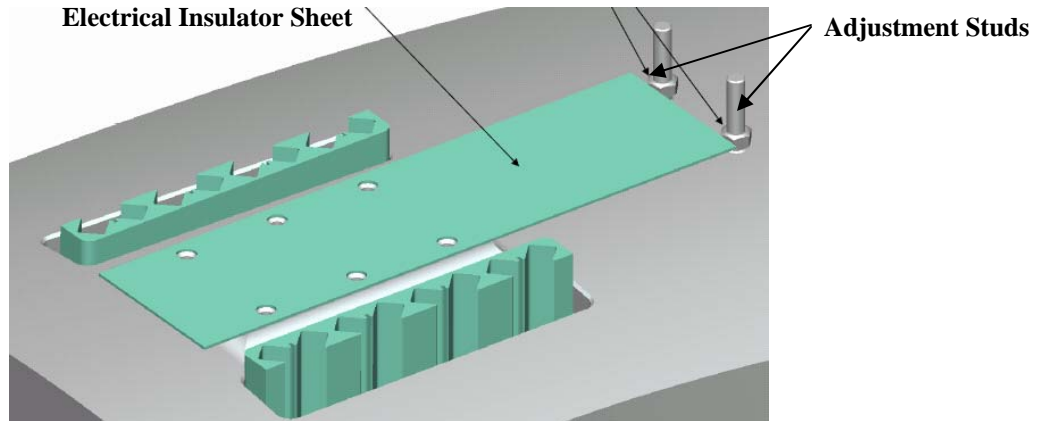

Figure 18- Electrical Insulator and Adjustment Studs
6.19.1.7 Using the G-11CR mounting base for positioning, TIG weld (2) 3/8-16 studs to the casting. **[Figure 18- Electrical Insulator and Adjustment Studs**
- 6.19.2.1 Install the electrical insulator sheet and height adjustment nuts onto the studs just welded. [Figure 18- Electrical Insulator and Adjustment Studs]